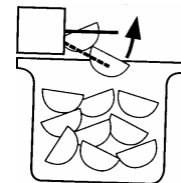

FIGURE 2
- ICE DELIVERY MAY BE INTERRUPTED BY RAISING THE METAL ARM INTO AN UPRIGHT POSITION (SEE FIG. 2)